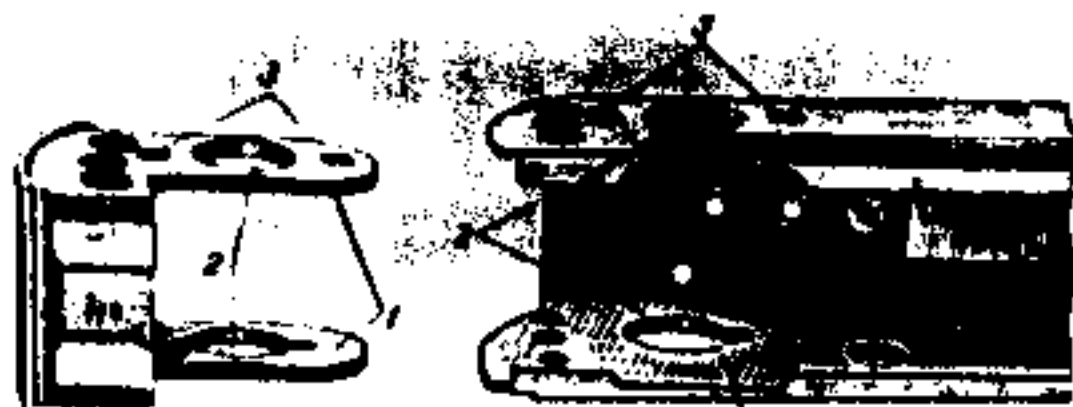

Figure 17. Back plate (1-49) of stamped receiver with folding metal stock.
In automatic rifles with stamped receiver and folding metal stock (fig. 17), the back plate has two lugs (1) with holes (2); the receiver has the same kind of holes. They hold the stock pin, and the lugs reinforce the receiver walls.